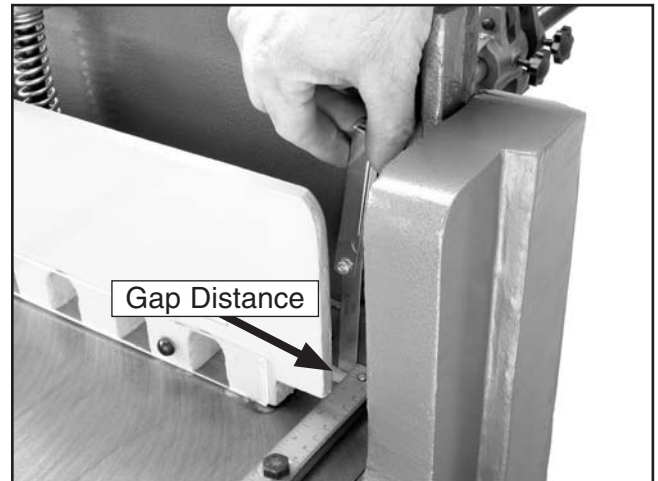

Figure 19. Measuring gap between blades.
6. Turn the table adjustment screws to move the fixed blade away from the moving blade so you have a gap of 0.002". Check this measurement with a feeler gauge as shown in **Figure 19**.